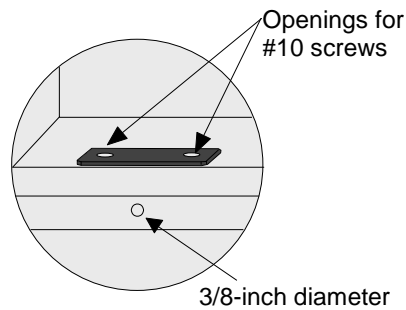

FIG. 1
1. Place the top mounting plate at the edge of the cabinet and mark the location of mounting screws. Drill two holes for #10 screws. (13/6-inch). (FIG.1) The pedal center should be between 6 and 10 inches offset from the cabinet center.
Drill hole 3/8-inch under the cabinet plate for cable connection to the valve. (FIG.1)